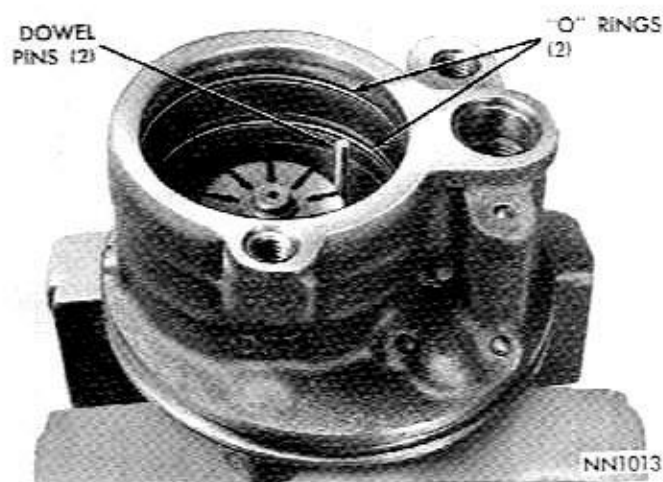

Fig. 14—Rotor and Thrust Plate Installed
(6) Install two dowel pins in holes in pump cavity. Carefully insert drive shaft, rotor and thrust plate assembly in pump cavity indexing locating holes with dowel pins (Fig. 14).